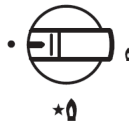

Fig. 8
1. To light the hotplate push in the appropriate control knob and turn anti-clockwise to the large flame symbol (Fig. 8).